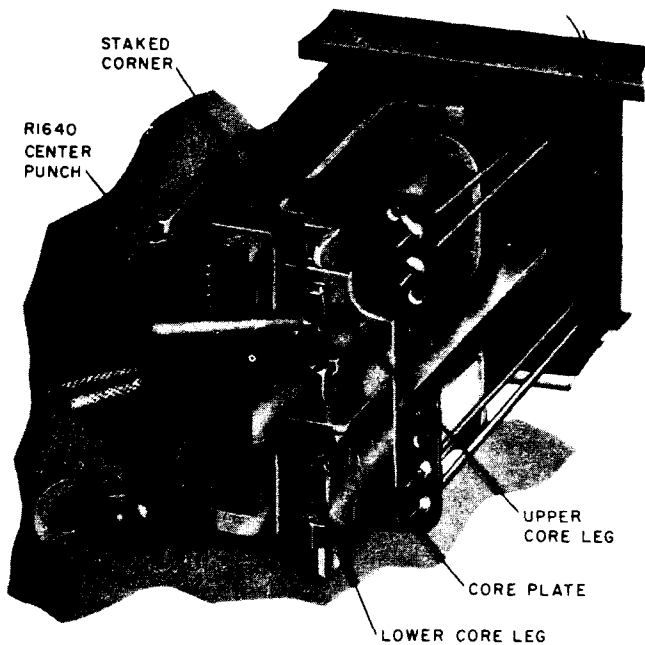

Fig. 36—Staking Core Legs to Secure Core Plate
- (b) Using the R-1640 center punch and the 4-ounce riveting hammer, stake each corner of the upper and lower core legs to secure the core plate as shown in Fig. 36.